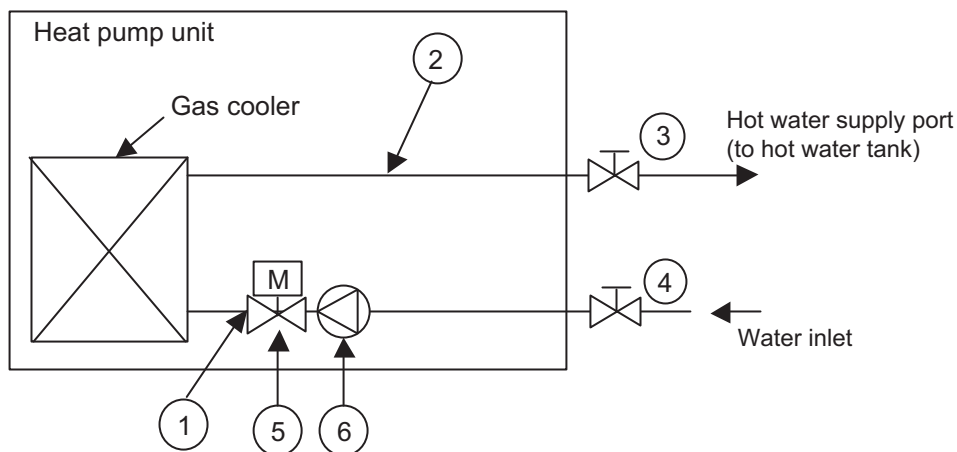

Figure 2: Valves to be closed and connections of cleaning water circuit
Figure 2 symbol explanation
Cleaning water circuit is connected to the unit at the hot water supply port on the back of Heat pump unit ① and at the gas cooler inlet in the front of the Heat pump unit ② as shown in Figure 2.
Cleaning solution flows through the pipe indicated as ②, gas cooler, and then the pipe indicated as ① in Figure 2.